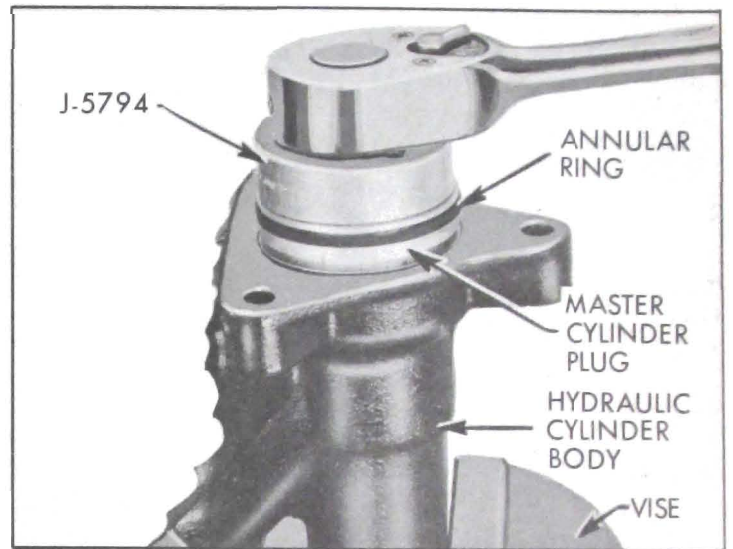

Figure 9-20—Removing Cylinder Plug
15. With hydraulic master cylinder still clamped vertically in a vise, remove power piston return spring from housing. Remove three bolts and pull power cylinder housing straight up. Remove gasket. Unscrew master cylinder plug, using Wrench J-5794. Remove two annular rings. See figure 9-20.